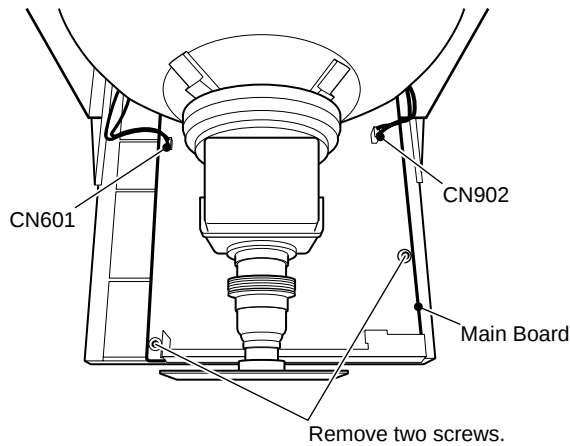

Fig. 2
- Referring to Fig. 2, remove two screws that secure the Main Board and disconnect two connectors (CN601 and CN902).